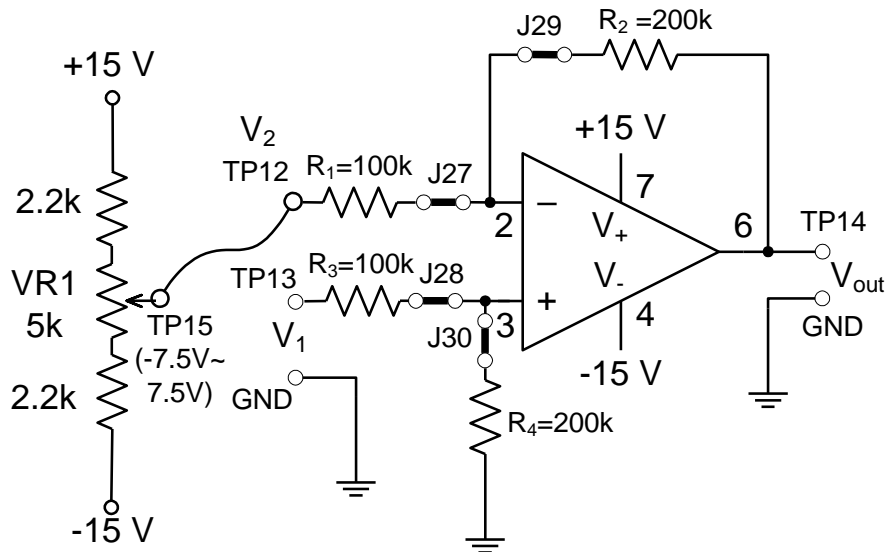

Figure 6 – Differential Amplifier Schematic Diagram
3. Insert jumpers J27, J28, J29, and J30 to construct a differential amplifier circuit shown in Figure 6.